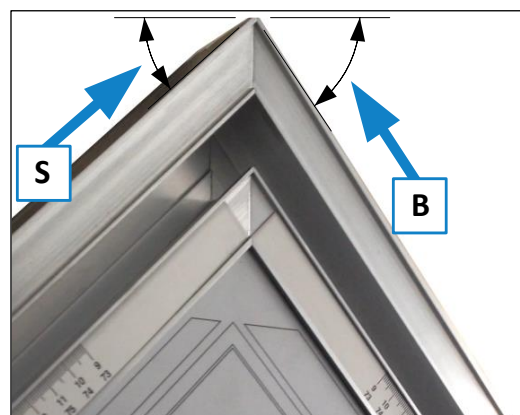

Figure 8: Angles for wrong mitres
This automatically results in the correct angle to the saw blade for the narrower workpiece (S) on the left side of the DSG-A and for the wider workpiece (B) on the right (refer ⇒ Figure 8).